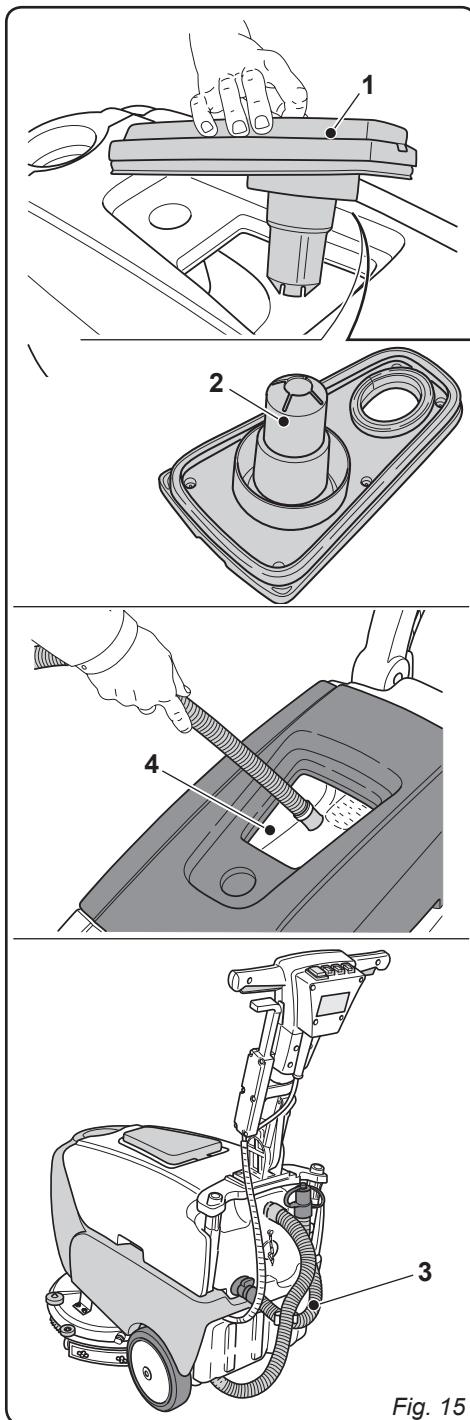

Fig. 15
11.1.b - Cleaning the recovery water tank (Fig. 15)